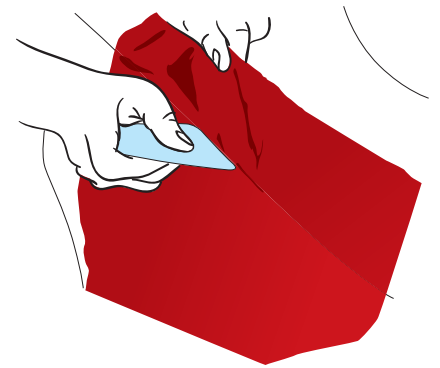

Figure 32
- › Shape the film with your finger on the part's contours. Lift the film of the adjacent part and drag it into the hollow using a squeegee so as to shape the joint edge. (FIG. 32)